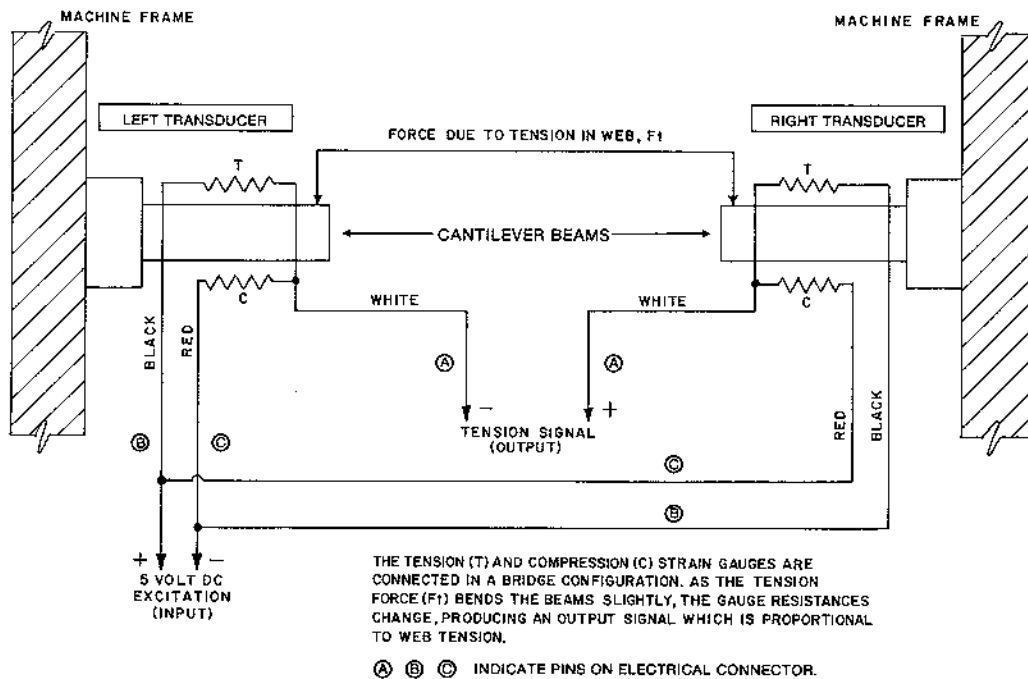

FIGURE 2
1.2 ELECTRICAL OPERATION (see Figure 2.)